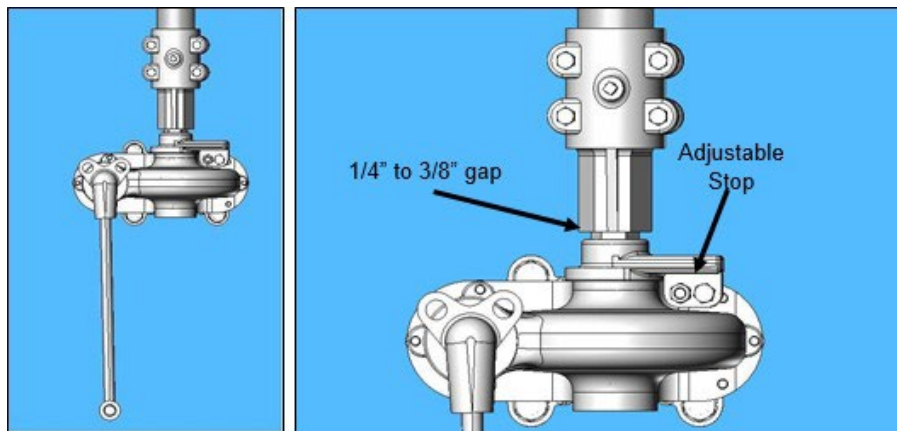

Figure 13: HOGO (High Output Geared Operator)
- 5.7 **CAUTION:** The pipe collar must support the entire weight of the vertical operating pipe. **Do not allow the pipe to rest on the switch operating device.** Refer to **Figure 13**.
- 6.3.1.3. When the switch is properly adjusted the operator handle should hang vertically and free in both the open and closed positions to permit the use of a customer supplied padlock. Refer to **Figure 13**.